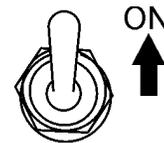

Figure 17. Operation Switch (ON)
3. Place the generator's operation switch (Figure 17) in the **ON** position.